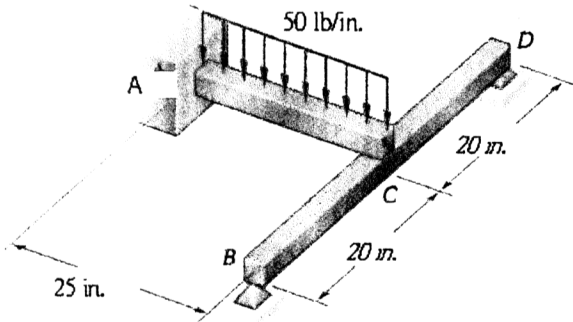

Fig. 5
5. (20%) For the loading shown in Fig. 5., knowing that beams AC and BD have the same flexural rigidity, determine (a) the reactions, (b) the deflection at C. ($EI = 1.2(10)^5\text{ lb-in.}^2$)